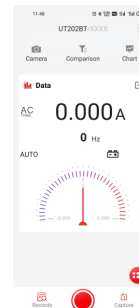

Figure 15
- 2) iDMM2.0 has multiple function modules such as Bluetooth wireless communication, datalogging, device management, report generation, data share, data synchronization. ACA measurement interface is shown as figure 15. Please refer to the user manual for the function modules.